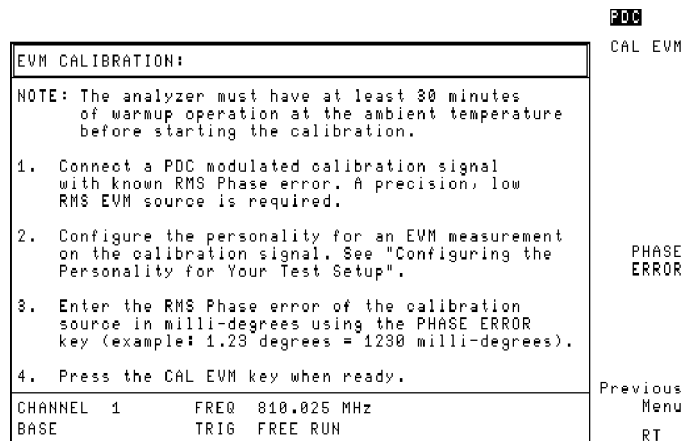

Figure 4-15. EVM Calibration Instructions
4. Press **Evm Cal** to access the EVM calibration menu. A screen containing instructions is also displayed. See Figure 4-15 for the EVM calibration instructions screen.